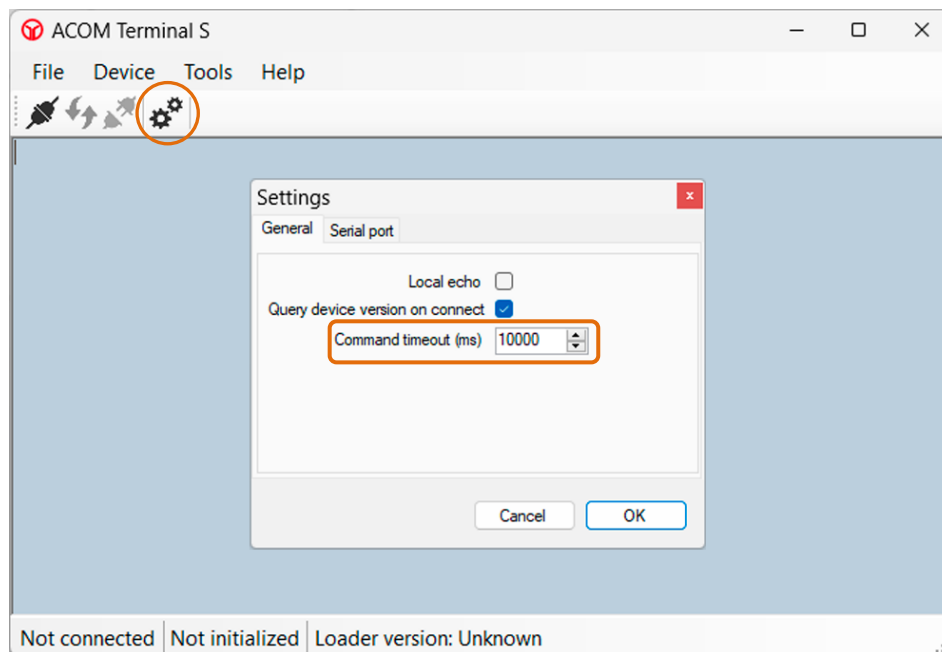

Figure 7-14 | Terminal S - Tools -> Setting -> General menu
- Open the **Settings** window by clicking on the **Settings** icon (two gears) or use **Tools -> Settings** from the menu bar. In the **Settings** window -> tab **General**, configure the settings as shown in **Figure 7-14 | Terminal S - Tools -> Setting -> General menu**: